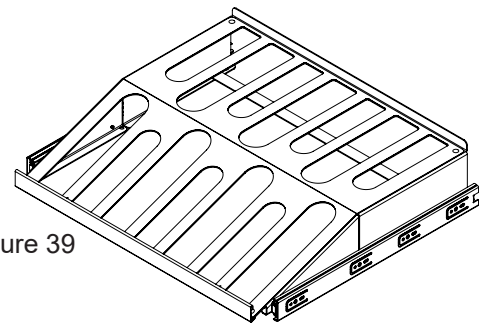

Figure 39
- (1) Seven bottle rollout wine display rack with vibration dampening mat. (See figure 39).